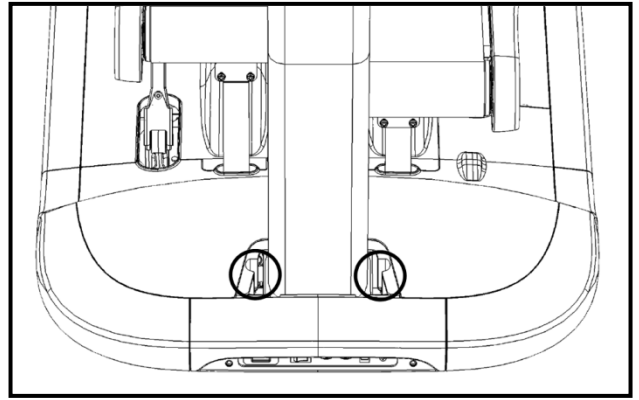

Fig. 27
25. Install the front alternator shroud (Fig. 27) and secure it in place by installing the corresponding two phillips head screws at the circled locations.